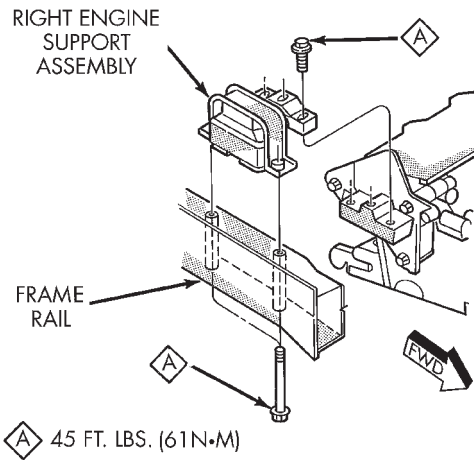

Fig. 15 Engine Mounting—Right Side
(1) Raise vehicle on a hoist and remove inner splash shield. Remove the right engine support assembly vertical fasteners from frame rail (Fig. 15).
(2) Lower vehicle. Remove the load on the engine motor mounts by carefully supporting the engine assembly with a floor jack.
(3) Remove the three bolts attaching the engine support assembly to the engine bracket.
(4) Move the air conditioning dryer aside.
(5) Remove coolant recovery system tank. Refer to Group 7, Cooling System for procedure.
(6) Remove right engine support.
(7) Remove the three bolts attaching the engine support bracket to the cylinder block.
(8) Reverse removal procedure for installation. Refer to (Fig. 15) for torque specifications.